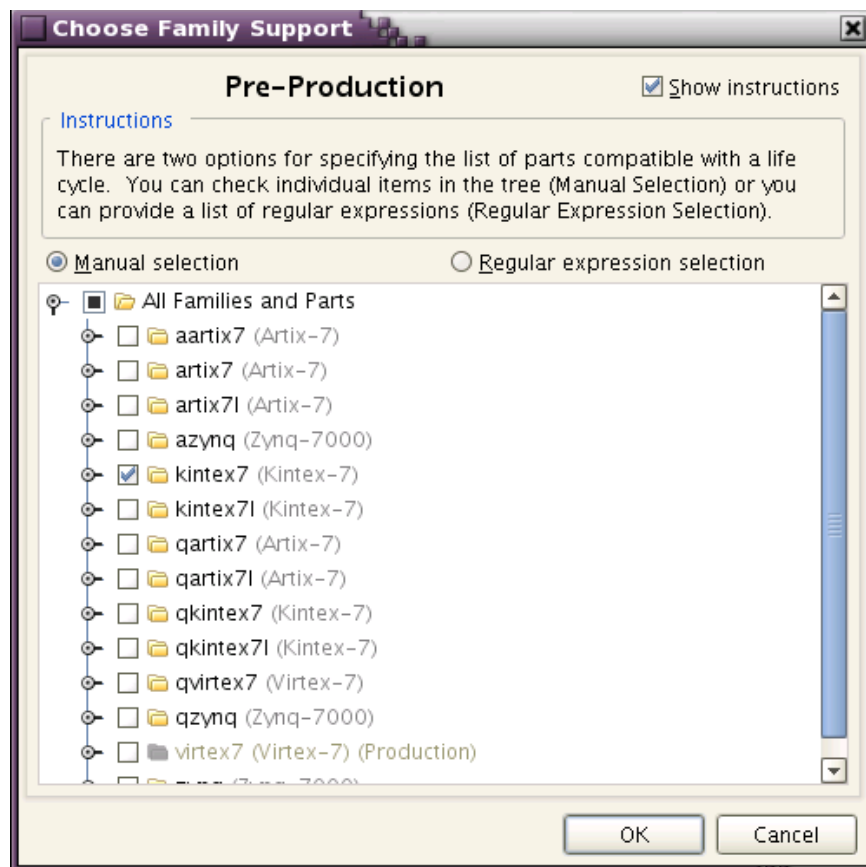

Figure 13: Choose Family Support Window
9. In the Choose Family Support window, select **kintex7** and click **OK** (Figure 13).